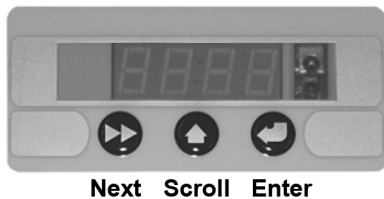

Figure 5 Controller Keys
5. Configure the system's settings (see key icons in Figure 5 "Controller Keys" on page 2). Press the SCROLL key to change the display to CnF (Configuration Settings). Your configuration settings determine how your system operates and which menus are available to you during programming.
The keypad shown in Figure 5 displays and controls dispenser functions. Blinking characters prompt you to input a value with the SCROLL key. Use the NEXT key to move to the next digit. When the correct value displays, press the ENTER key to save and return to the main menu.